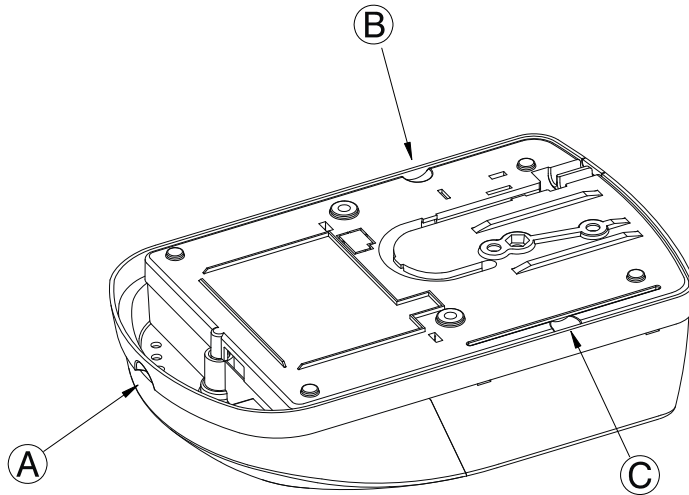

Fig. 17
- ii. open the Courtesy Lamp Cover by pulling it down at the finger recess point (Fig.17–A)
- v. remove the Control Box Cover by pulling first **outwards** and then **downwards** at the finger recess points (Fig.17-B & C)